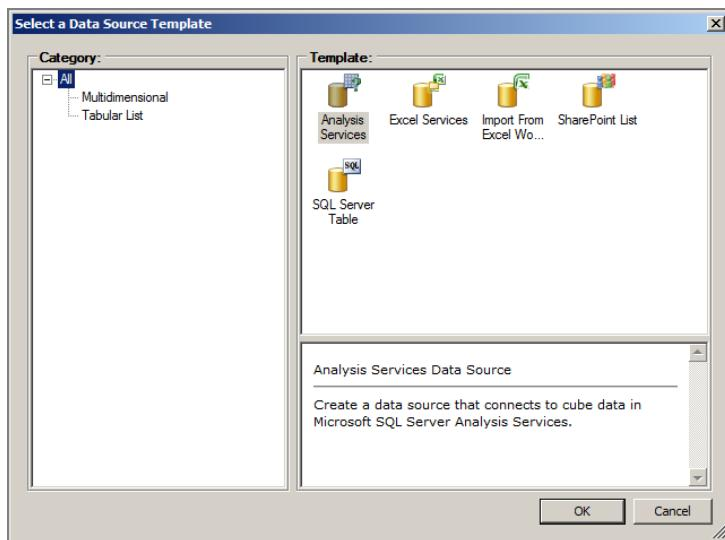

Figure 7-3
- **Data Source:** The data source (see Figure 7-3), as its name implies, is the primary connection to the data that is used to render the dashboard. The most common and also most powerful source for data is an OLAP or Analysis Services cube.